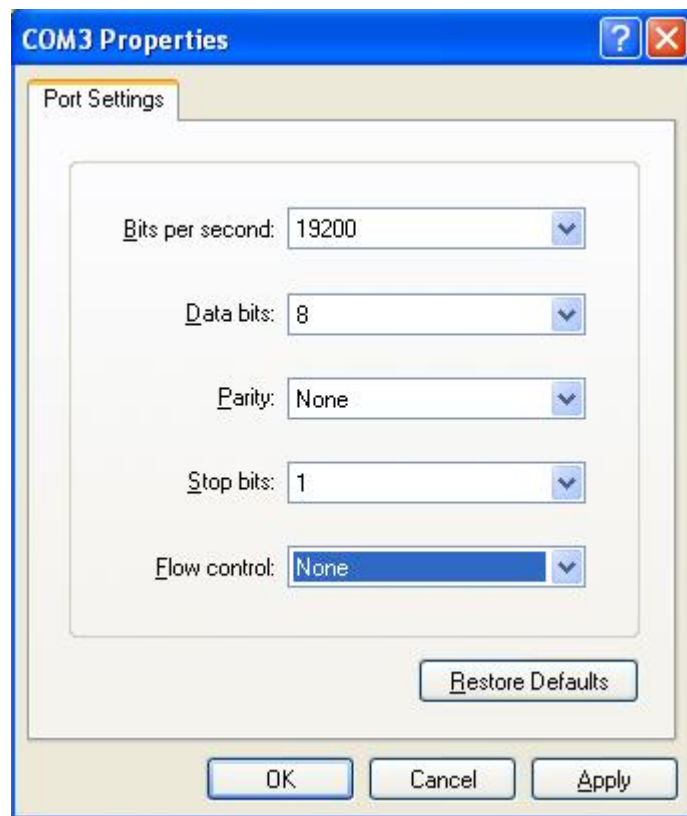

Figure C-8 · COM3 Properties Window
4. The COM3 Properties window appears (Figure C-8). Select the following settings: